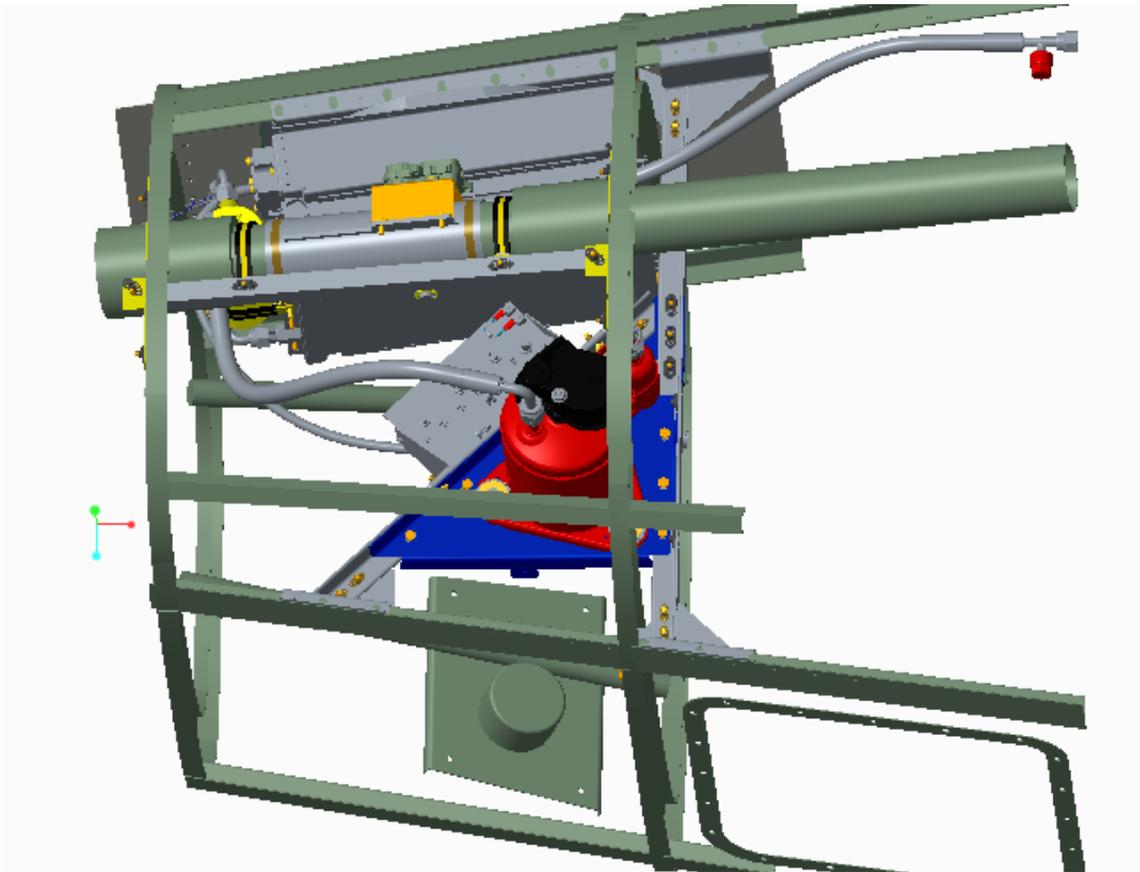

Figure 17 – Compressor Installation
- 2) Secure the Compressor to the Structure and make Hose connections per Notes 6.2, 6.3 & 6.4. See Figure 17 & Figure 44 – Hose Layout.